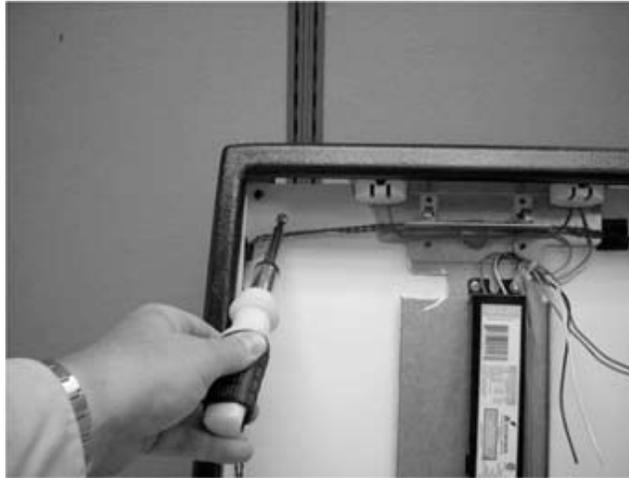

Figure 71.
D. Repeat on opposite side on chase, Figure 71.